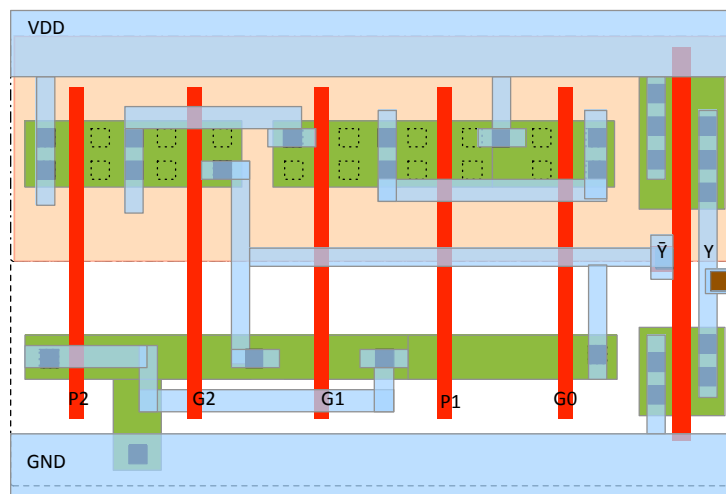

Figure 11: One solution for task 3 d. The cell can, of course be compacted once we know how where the gaps in the diffusion are for the p-net.
- d) The Euler path for the supplied layout template is shown in Figure 10. One example of the complete layout drawn in the supplied template is shown in Figure 11. Once you know where the gap in the p-net is placed you can compact the layout. The result of such a compaction is shown in 12. To compact the layout was not required in the exam, of course.